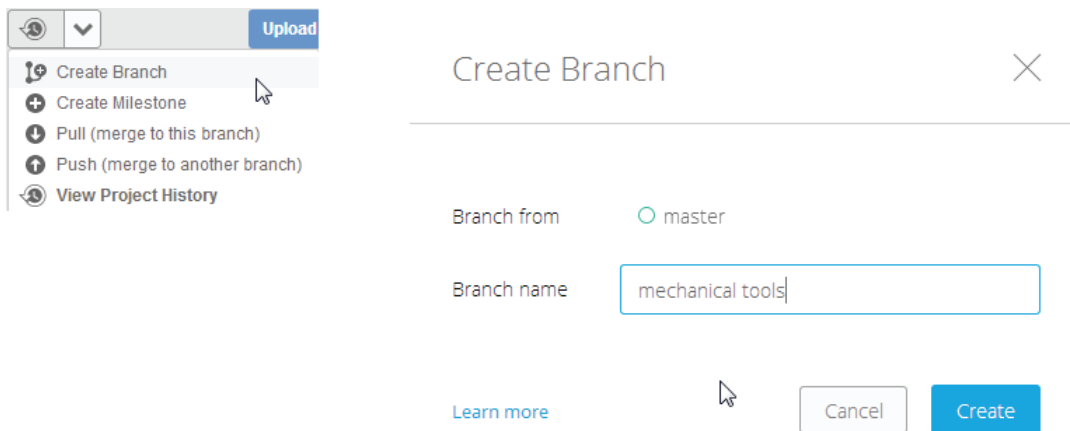

Figure-80. Create Branch
- Click on **Create Branch** button from **Branch / Merge Options** drop-down; refer to Figure-80.